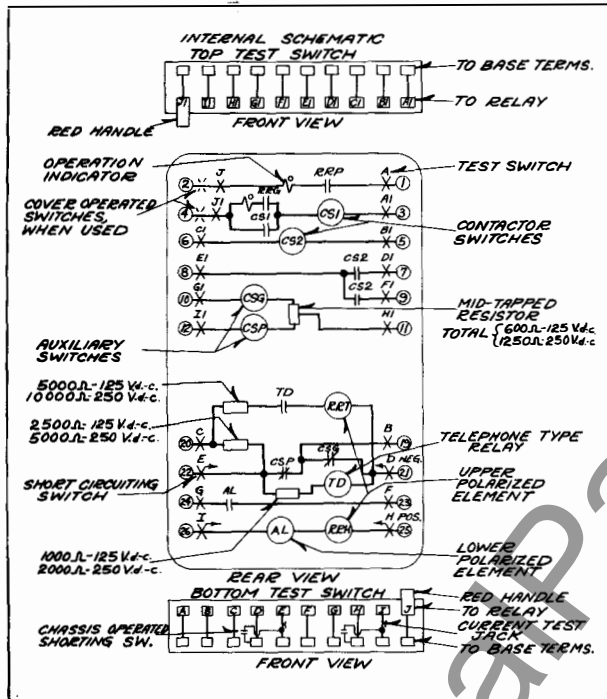

Fig. 1—Internal Schematic of the Type RS Relay for Tone Relaying in the Type FT Case.
long time constants in the tone transmitter and tone filter circuits, it is necessary to add a one-cycle time delay to insure buildup of the restraining tone before operating energy is applied to the receiver relay. This delay is provided by a telephone-type relay (TD) interposed between the carrier stop circuit and the operating coil of the receiver relay, as shown on the internal schematic, Figure 1. There are no changes in external connections from a standard type RS relay.